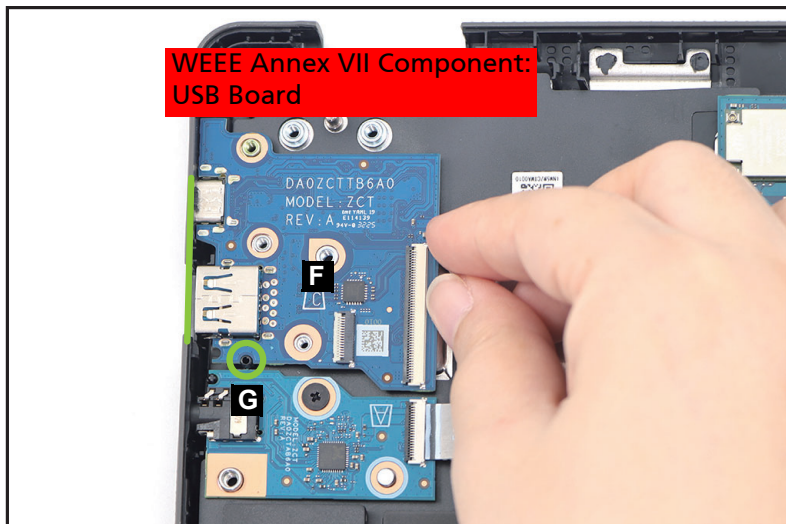

Figure 1-37. USB Board Removal
5. Release the USB board (F) from the I/O ports slots and guide pin (G) on the top assembly (Figure 1-37). Then remove the USB board.
4. Release the audio board (E) from the I/O port slot and guide pins (F) on the top assembly (Figure 1-37). Then remove the audio board.